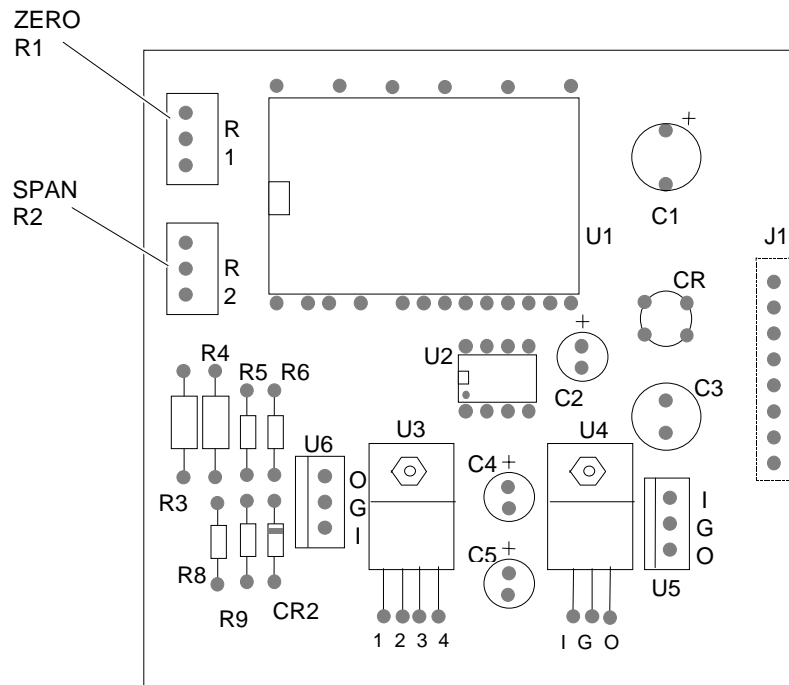

FIGURE 3-2. ISOLATED CURRENT OUTPUT BOARD
4. On the Isolated Current Output Board, adjust ZERO control R1 (Figure 3-2) so that current output device indicates the low range-limit desired for the output range: 0 milliamperes or 4 milliamperes.
7. On the Isolated Current Output Board (Figure 3-2), adjust SPAN control R2 for reading of 20 milliamps on current output device.